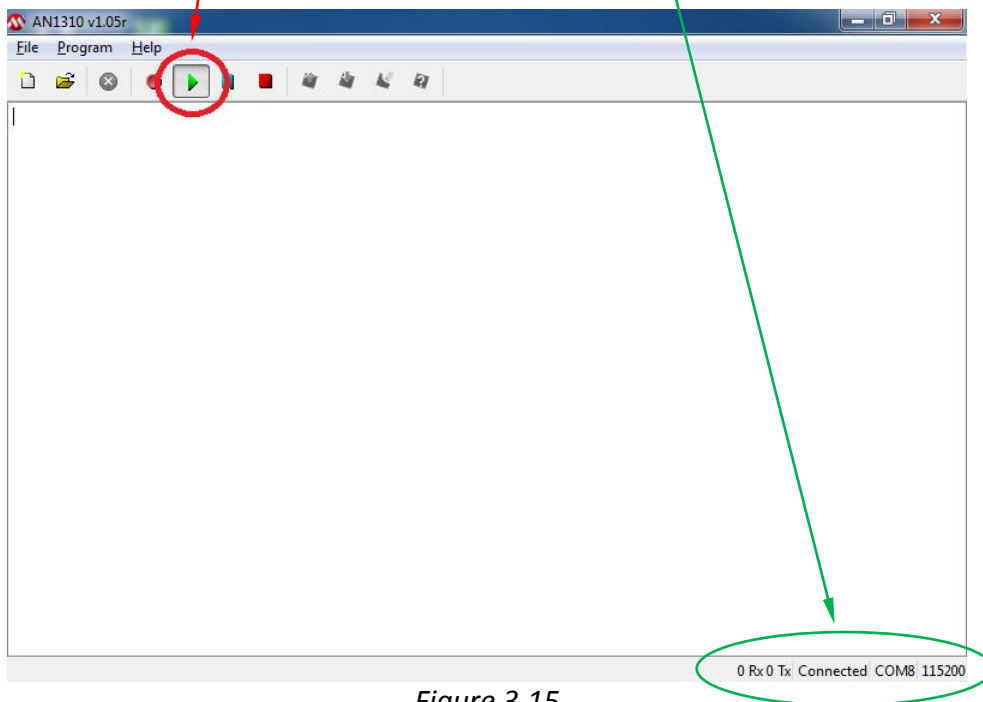

Figure 3.15
2. Press the green **Run Mode** button on the bootloader screen (Figure 3.15). At the bottom right hand side of the screen the **“Connected”** status will appear as well as the **COM Port number**.